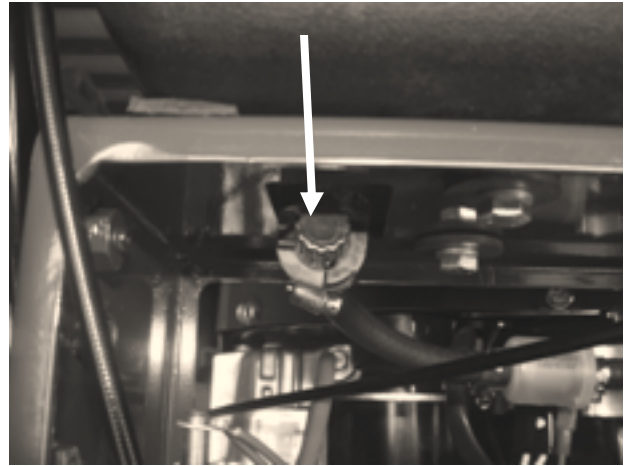

Figure 21
1. Turn gas tank valve to off position **Figure 21**.